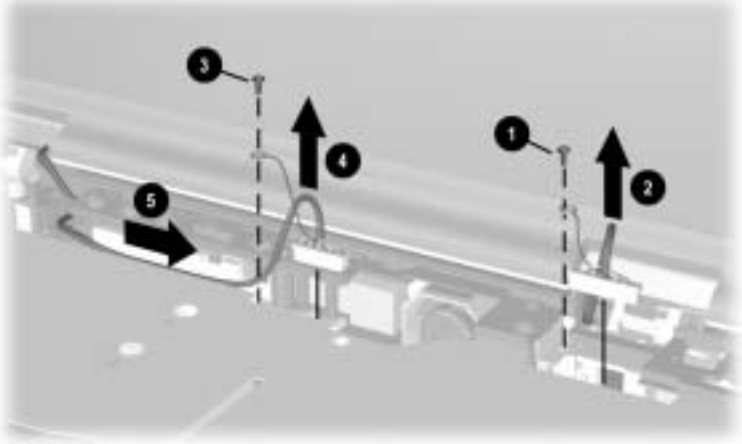

Figure 5-25. Removing the Display Screws and Disconnecting the Display Cables
4. Remove the TM2.5 × 5.0 screw ❶ that secures the display inverter cable ground loop to the heat spreader (Figure 5-25).
5. Disconnect the display inverter cable ❷ from the system board.
6. Remove the TM2.5 × 5.0 screw ❸ that secures the display video cable ground loop to the heat spreader.
7. Disconnect the display video cable ❹ from the system board.
8. Remove the display video cable from the routing channels in the heat spreader and the top cover ❺.